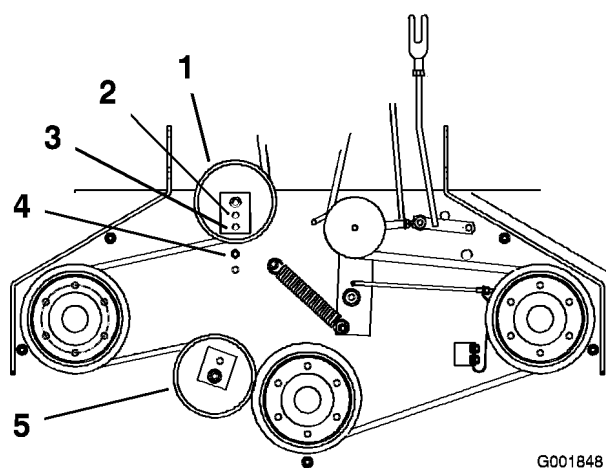

Figure 49
- If there is no adjustment left in the turnbuckle and the belt is still loose, the rear idler pulley needs to be positioned to the middle or front hole (Figure 49). Use the hole that will give the correct adjustment.
- When the idler pulley is moved the belt guide must be moved. Move the belt guide to the front position (Figure 49).